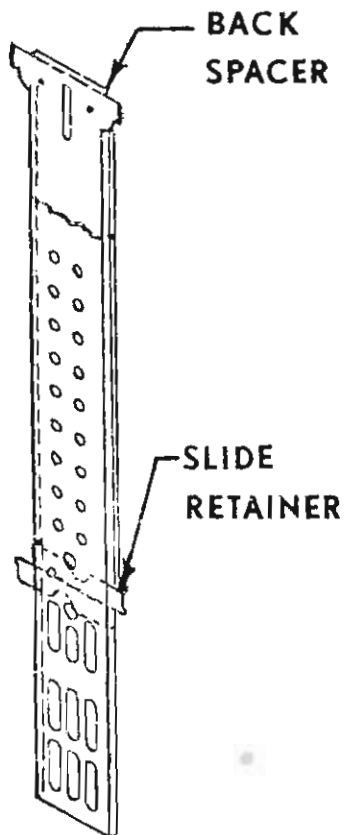

FIGURE 20
- (1) Remove the backspacer. Remove its latch slide and spring. FIGS. 20 & 21
- (2) Turn the spacer 180° from its original position and remount in the last rear slot.
- a. Remove the backspacer. Remove its latch slides and spring. (Fig.20,21)